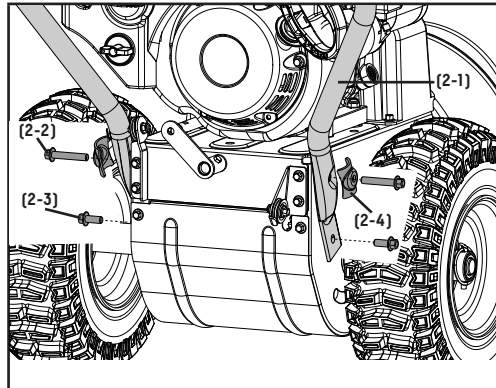
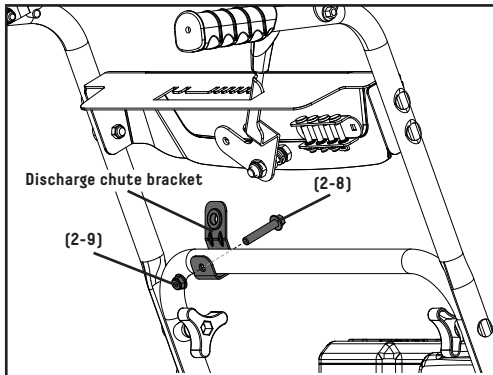

Figure 3
Figure 5
1. Attach the lower handle (2-1) onto the unit body with bolts (2-2, 2-3) and washers (2-4) (Fig. 3). Repeat on the other side. See Fig. 5 for proper discharge chute bracket mounting hole orientation.
3. Connect discharge chute guide to lower handle with 1 bolt (2-8), and 1 lock nut (2-9) (Fig. 5).